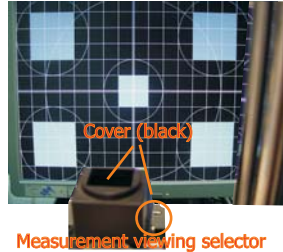

Fig. 2
- Set measuring/viewing selector to measuring position for reset analyzer.(zero calibration) as Fig.2